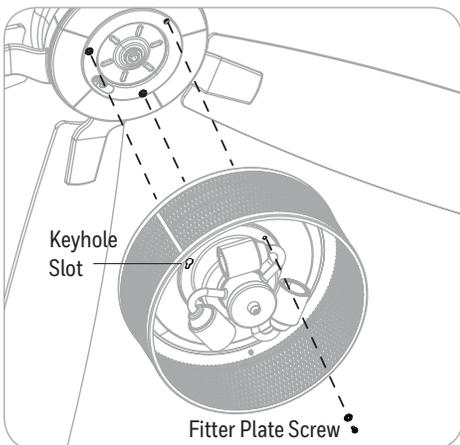

Figure 5.7
- Lift the light kit and place the two keyhole slots in the light kit over the two loosened fitter plate screws. Turn the light kit clockwise and secure it to the fitter plate with the previously removed fitter plate screw. Tighten all three screws (Figure 5.7).